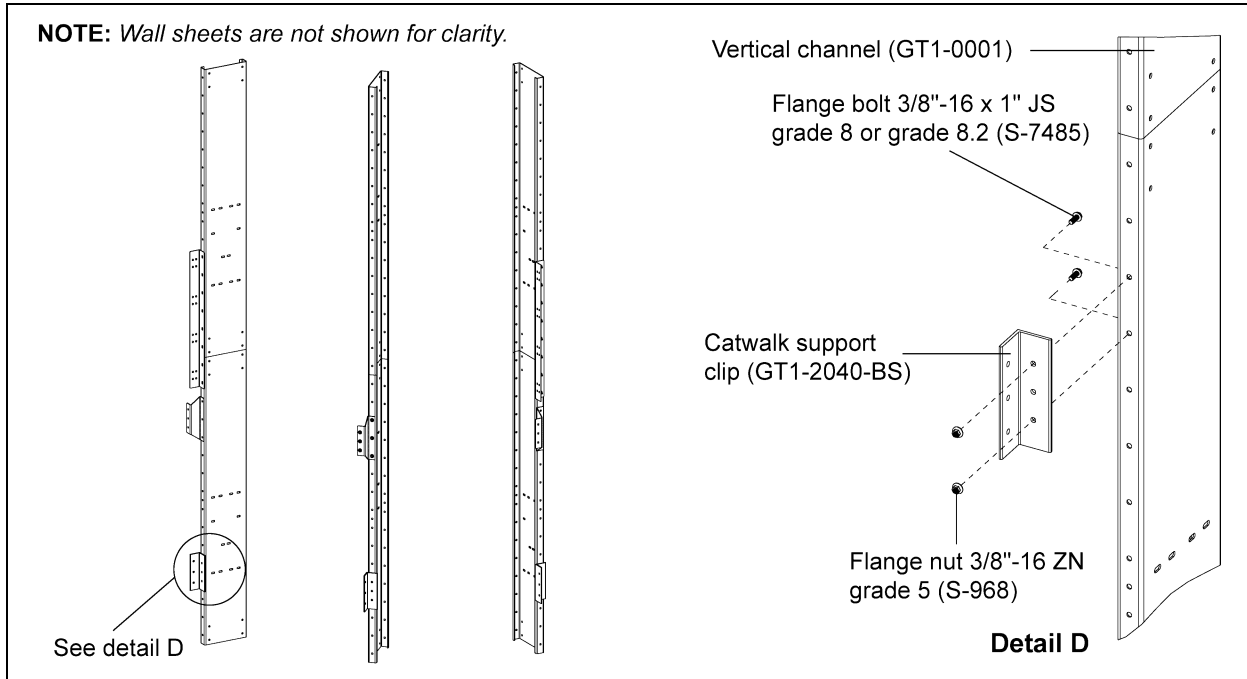

Figure 6G Offset Catwalk Support Clip Installation
1. Install catwalk support clips (GT1-2040-BS) to vertical channels (GT1-0001). Support clip can be installed on each vertical channel as the wall sheets are installed using 3/8"-16 x 1" JS grade 8 or grade 8.2 bolts (S-7485) and 3/8"-16 ZN grade 5 nuts (S-968). (See Figure 6G below and Figure 6I on Page 50.)